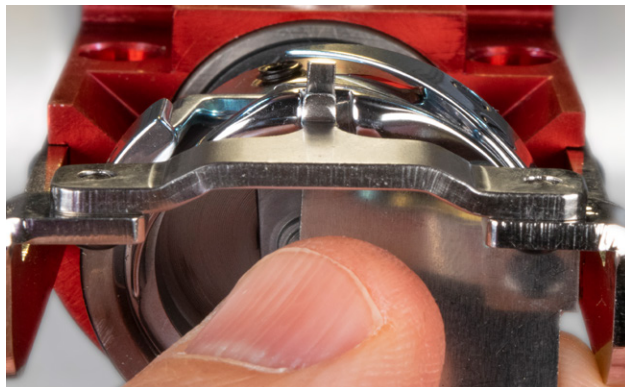

Figure 5 – Retaining Finger Gauge Usage
- Inspect the left-to-right position of the tip of the hook support (the portion of the hook support that is positioned inside the notch of the rotary hook – see Fig. 5) as it aligns to the needle. It should be centered left-to-right. Be careful not to scratch the highly polished surface.